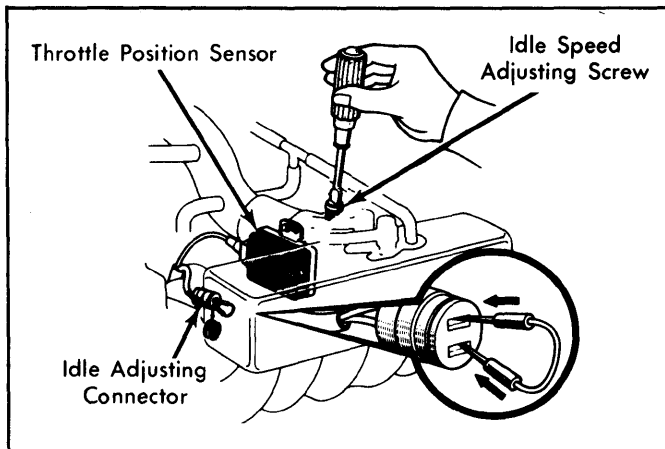

Fig. 7: EFI Idle Speed Adjusting Screw
4) Set idle speed to 800 RPM with idle speed adjusting screw. See Fig. 7. Remove rubber cap from idle adjusting connector and short both terminals with a jumper wire. Note voltage reading with engine at idle. 5) Remove jumper wire and race engine to 2500 RPM once. Adjust idle mixture screw until voltmeter needle fluctuation is centered on the voltage reading noted in step 4). Remove voltmeter and wiring harness and install rubber caps on connectors.